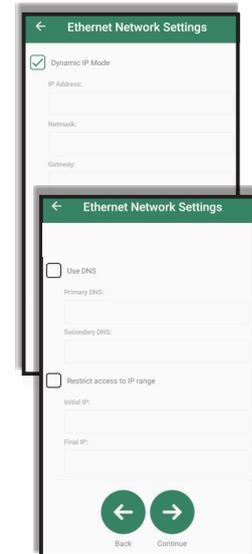

Figure 16
Step 2: In the **Ethernet Network Settings** screen (Figure 16), configure the parameters of the Ethernet network: